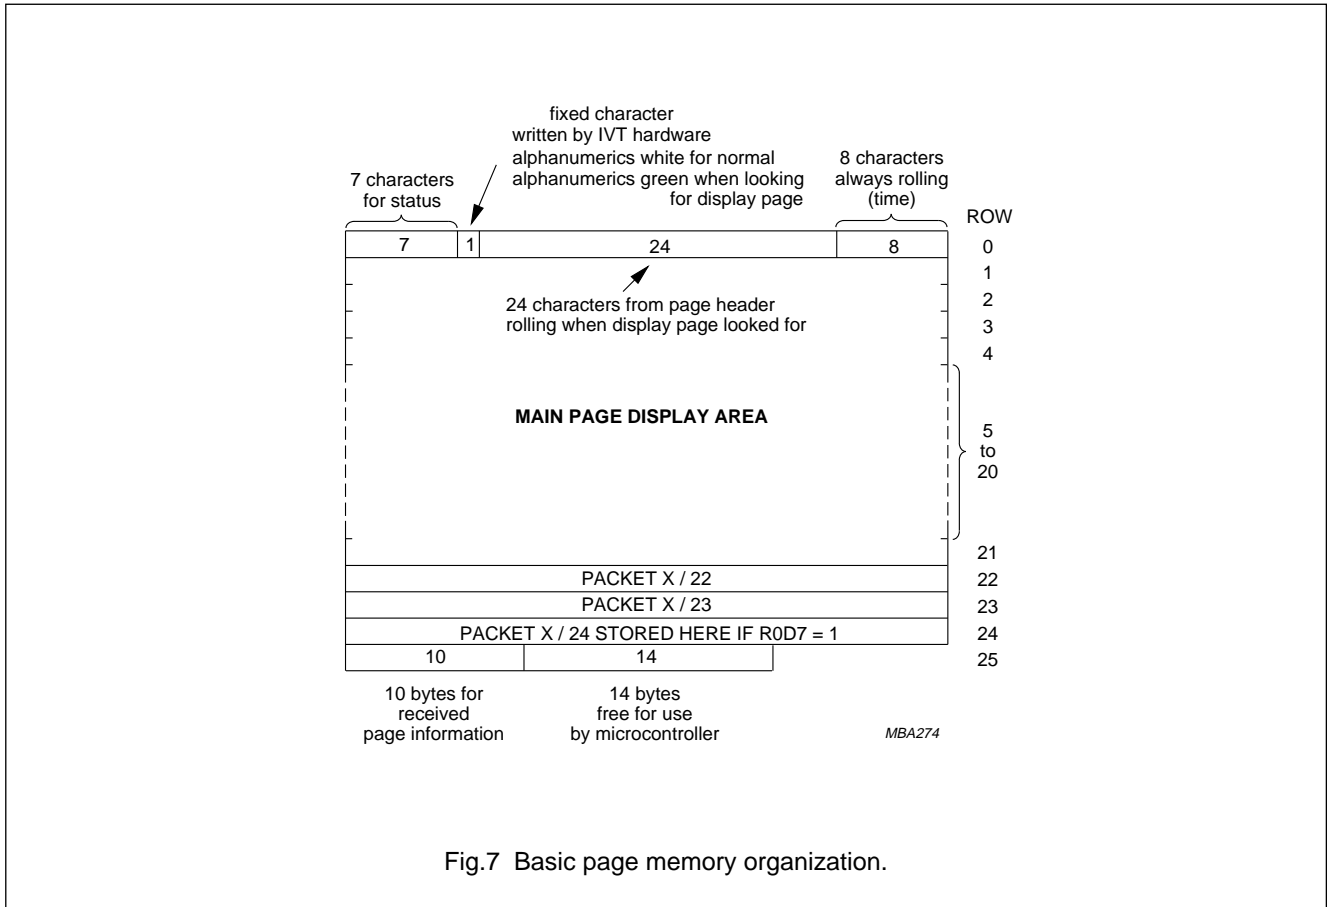

Fig.7 Basic page memory organization.
The organization of the page memory is shown in Fig.7. The device provides an additional row as compared with first generation decoders; this brings the display format up to 40 characters by 25 rows. Rows 0 to 23 form the teletext page; Row 24 is available for software generated status messages and FLOF/FASTEXT prompt information.
**REMARK TO Fig.7**